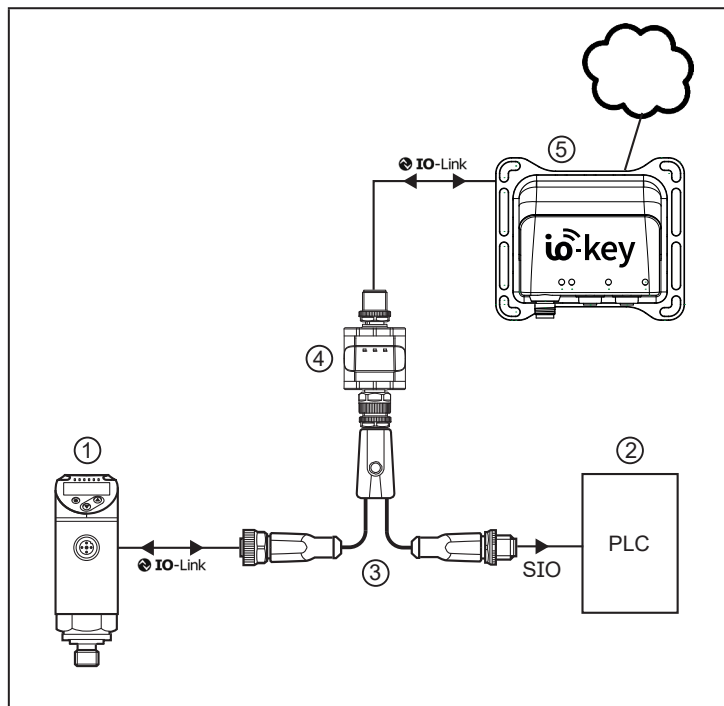

Fig. 4.2: Example of a system integration
In the configuration of fig. 4.2 the data splitter (4) switches the IO-Link device (1) initially operated in the SIO mode to the IO-Link mode, connecting the newly established IO-Link communication to the IO-Link master (5).
When the device is delivered the IO-Link master ((5) in fig. 4.2) only allows read access to the connected IO-Link device (1). Write access is not possible until the write protection has been removed.
Maximum distance between (3) and (2), fig. 4.2: → Technical data of the connection cables used and of the other connected components. Maximum 30 m.
- Connect the device to the IO-Link device, installation and IO-Link master using the Y-cable AA047 according to fig. 4.2.